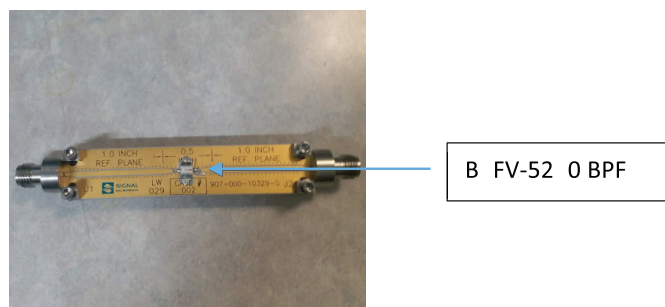

Figure 2: Fixture with B FCV-52 70+ Bandpass Filter
- A fixture for the surface mounted device 3225 (3.2 mm x 2.5 mm) (Figure 2)
- The device-under-test soldered on the fixture is a Mini-Circuit B FCV-52 70+ bandpass filter (Figure 2)